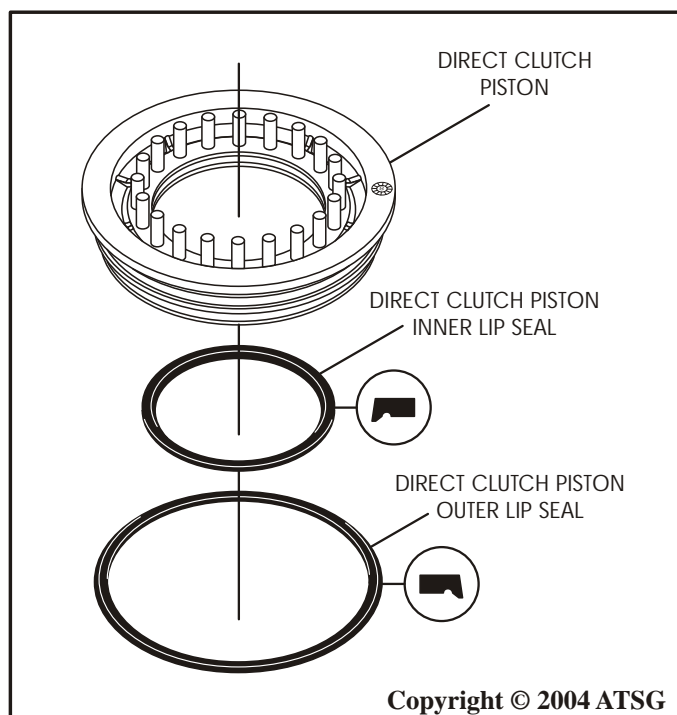

Figure 78
5. Install a new inner lip seal into the groove in the direct clutch piston, with the lip facing down, as shown in Figure 78.
6. Install a new outer lip seal into the groove in the direct clutch piston, with the lip facing down, as shown in Figure 78.